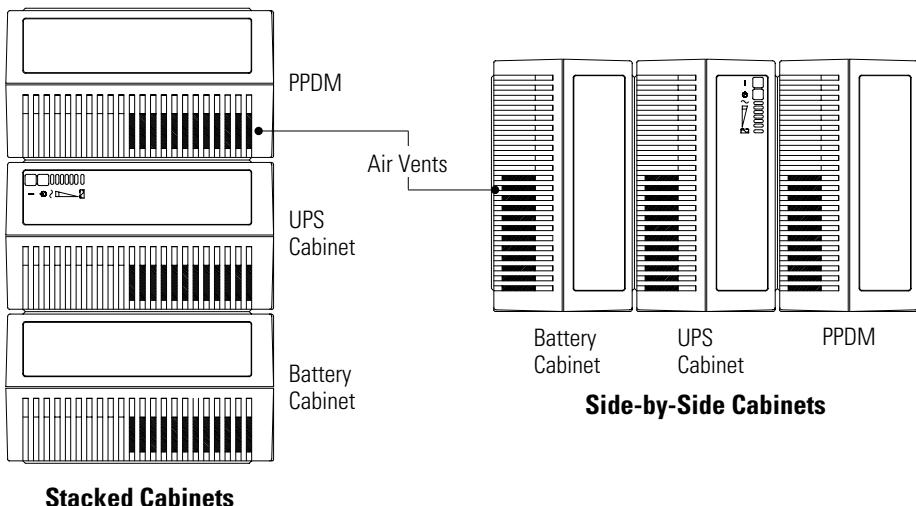

Figure 5. Cabinet Setup with PPDM
2. Place the PPDM on top of or beside the UPS and battery cabinets as shown in Figure 5.